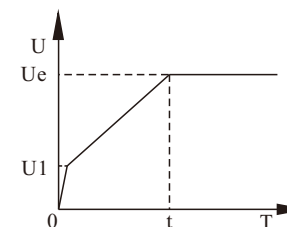

Figure 11
- Figure 11 shows the output voltage waveform of this mode, where U1 is the initial starting voltage. When the motor starts, the soft starter's output voltage rises rapidly, ensuring the motor current does not exceed 400% of its rated value. The motor accelerates smoothly as the voltage increases. When the voltage reaches the rated voltage U_e , the motor achieves rated speed, the bypass contactor closes, and the starting process is complete.